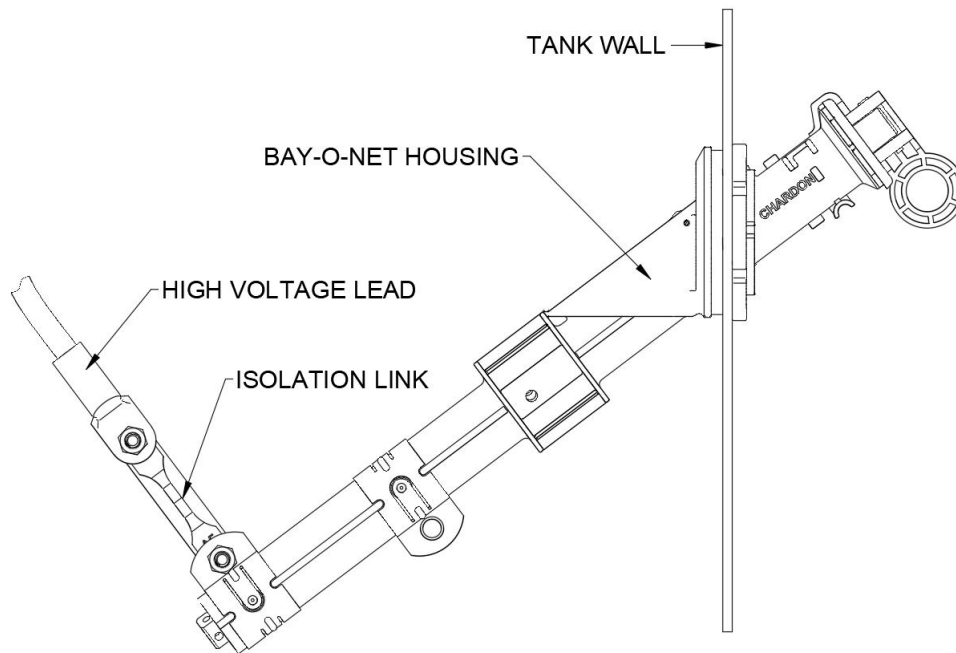

Figure 6
- 1、Reference drawing for Isolation Link mounted on Bayonet Fuse Holder (Figure 6).